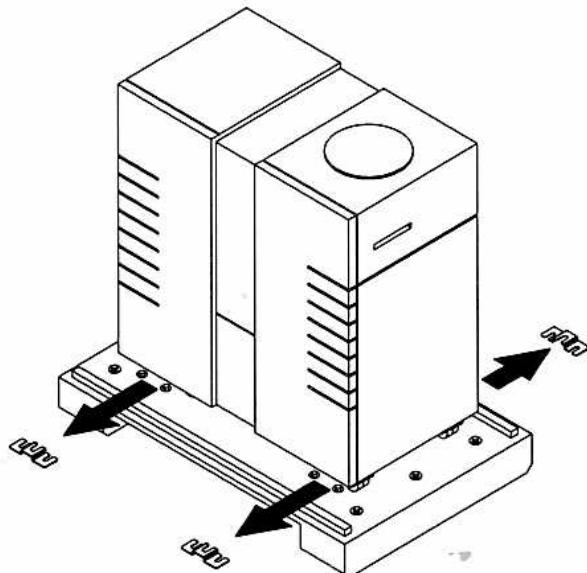

Figure 3: Removing the wheel chocks
6. Using a 9/16-inch open-end wrench, loosen the bolts securing the four wheel chocks to the pallet and remove them (see Figure 3).